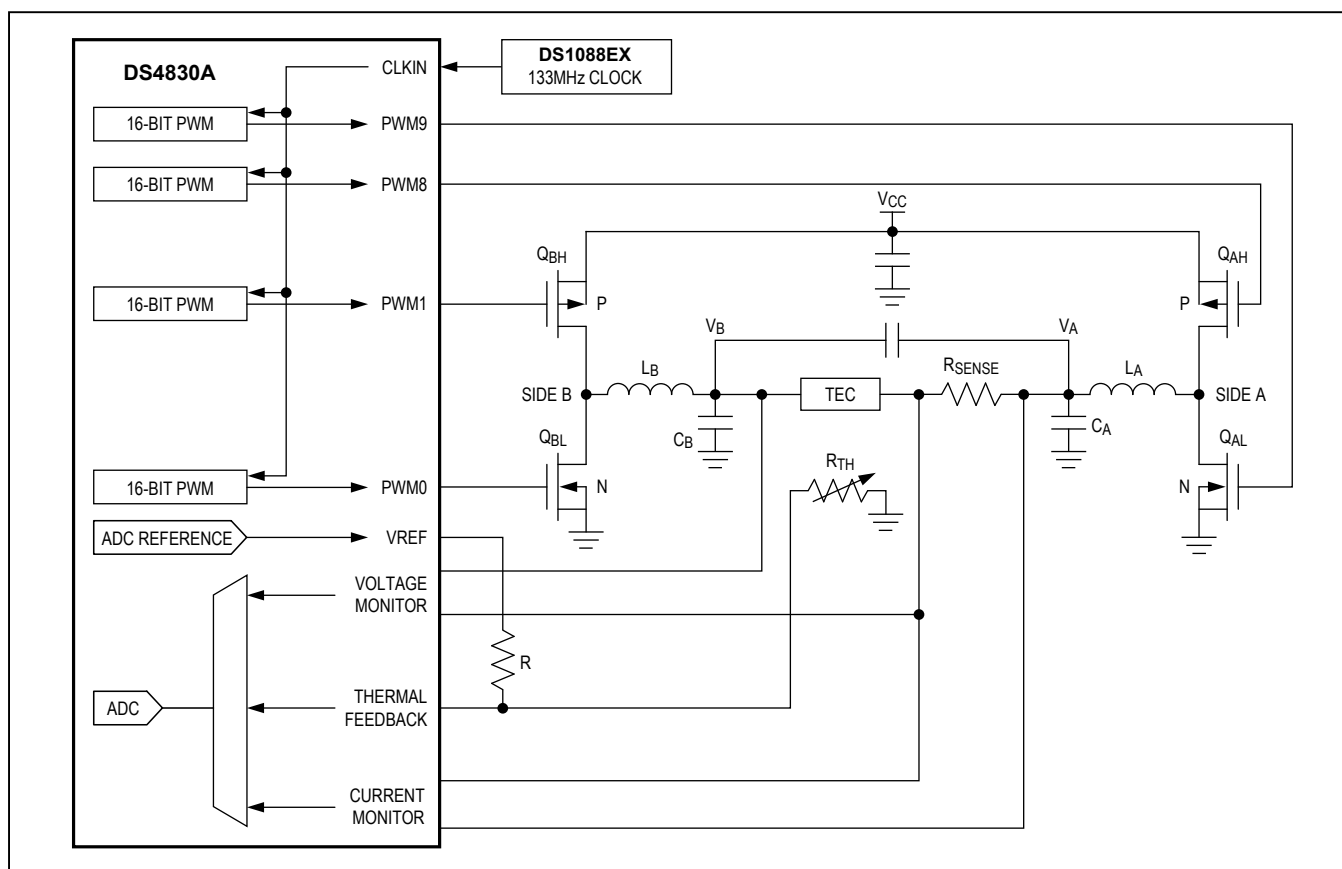

Figure 11. TEC Application
**Figure 11** shows how the PWM outputs can be used to control a TEC. Refer to Application Note AN5424: Thermoelectric Cooler Control Using the DS4830 Optical Microcontroller for further detailed information.